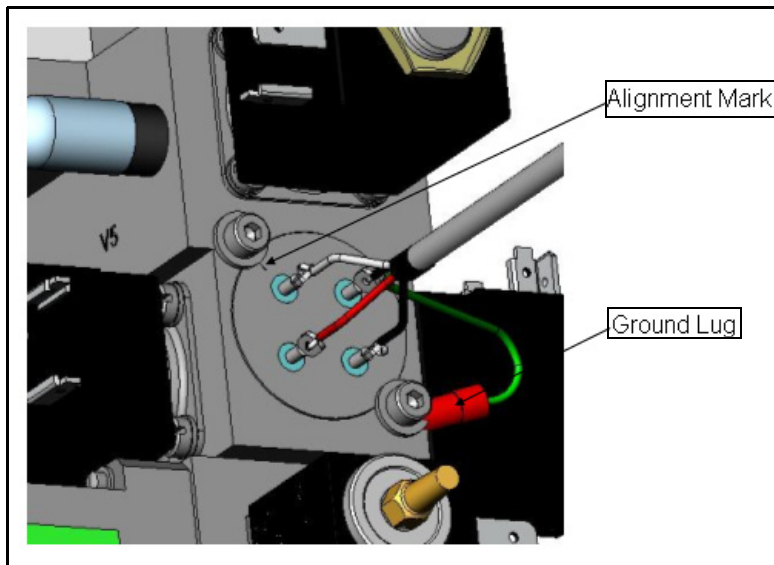

Figure 4: Alignment Mark and Ground Lug
10. Install the ground lug between the washer and the screw (Figure 4: Alignment Mark and Ground Lug).
11. Ensure that the alignment mark is positioned to the center of the screw as shown in Figure 4: Alignment Mark and Ground Lug, then tighten the two screws.